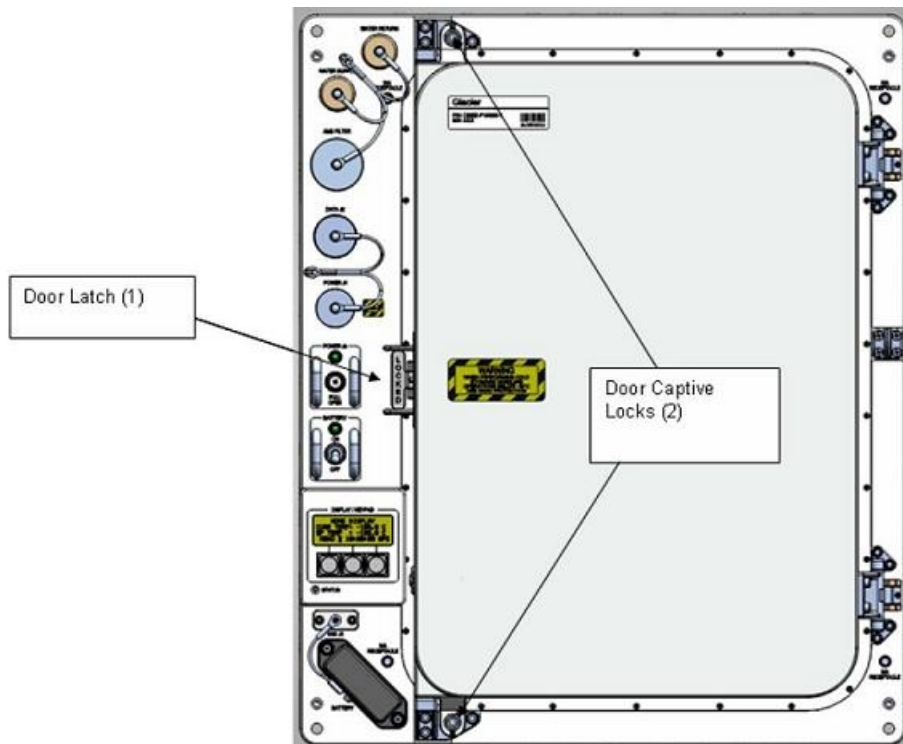

Figure 1. Glacier Configuration
- 1.1 Unlock Glacier Door Captive Locks (two) using 3/16" Hex Head, 3/8" Drive; 1/4" to 3/8" Adapter, 1/4" Drive; 4" Extension, 1/4" Drive; Ratchet, 1/4" Drive. See Figure 1 Glacier Configuration.